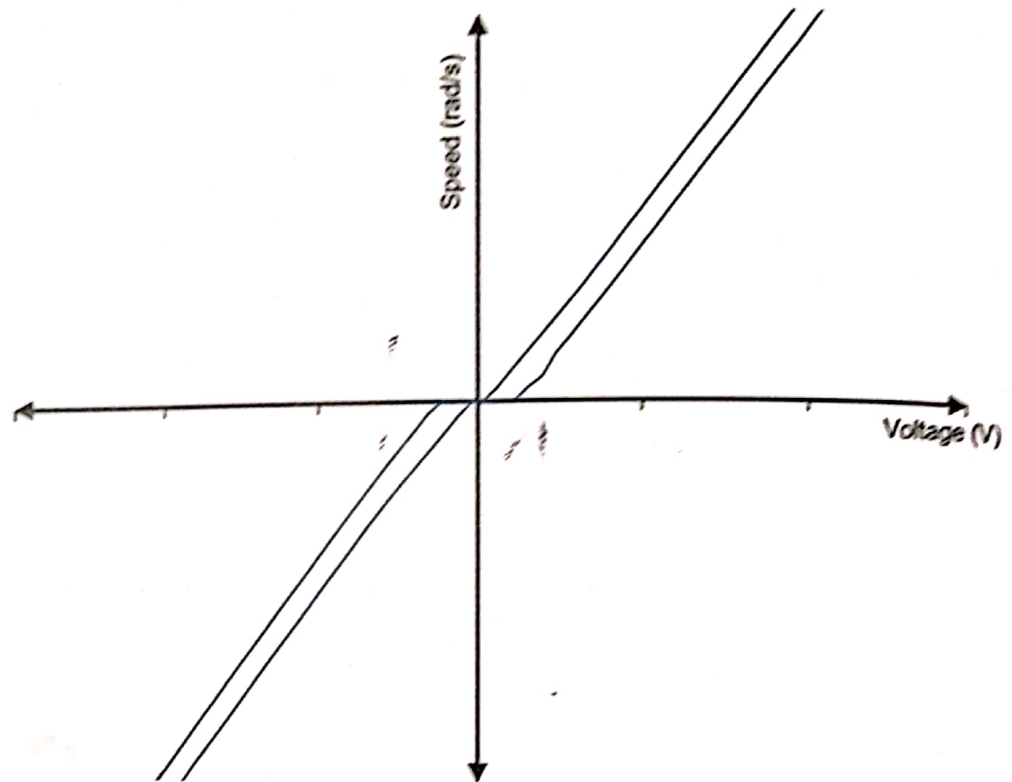

Figure 19. Steady state motor speed ω_{ss} vs supply voltage E example.
15. Use a spread sheet or similar mathematical tool to plot the motor steady state speed ω_{ss} in rad/s versus supply voltage E . Your plot should look similar to the one shown in Figure 19.
3. In the steady state speed vs. supply voltage plot (Figure 19), explain why there is a "flat" or horizontal region in the middle of the curve.